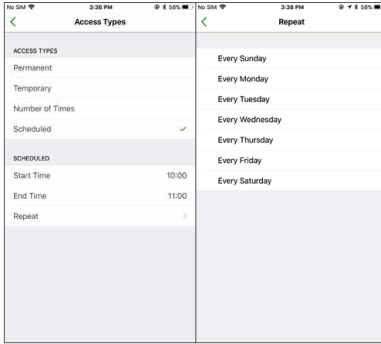

Figure 4
i. **Access Type** : (4 options) (See Figure 4 next page)
- (A) **Permanent** : Permanent access is given by default.
- (B) **Temporary** : Set specific access time period for guests and visitors.
- (C) **Number of Times** : To set number of access granted to user. (Please enter a number between 0 to 255)
- (D) **Scheduled** : To assign repeatedly access on specific days and hours for a certain period of time. This setting is useful for house cleaners or constructors who need temporary access on regular basis. (See Figure 4 and 5 next page)